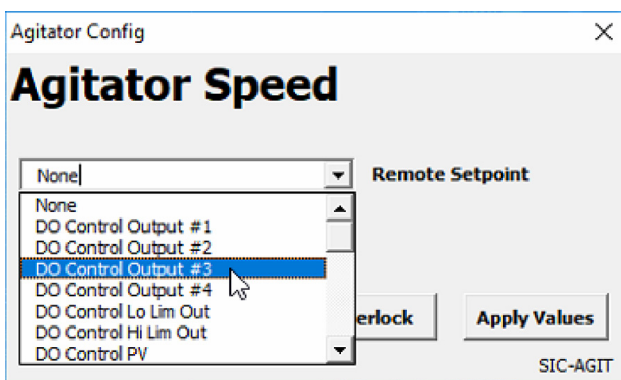

Figure 5.12. Agitator Configuration pop-up screen.
1. Open the **Agitator** control module. Note that only a remote setpoint is offered, as the agitator speed is usually set from the **Main** screen. Use the dropdown menu to select **DO Control Output #3** (Figure 5.12).